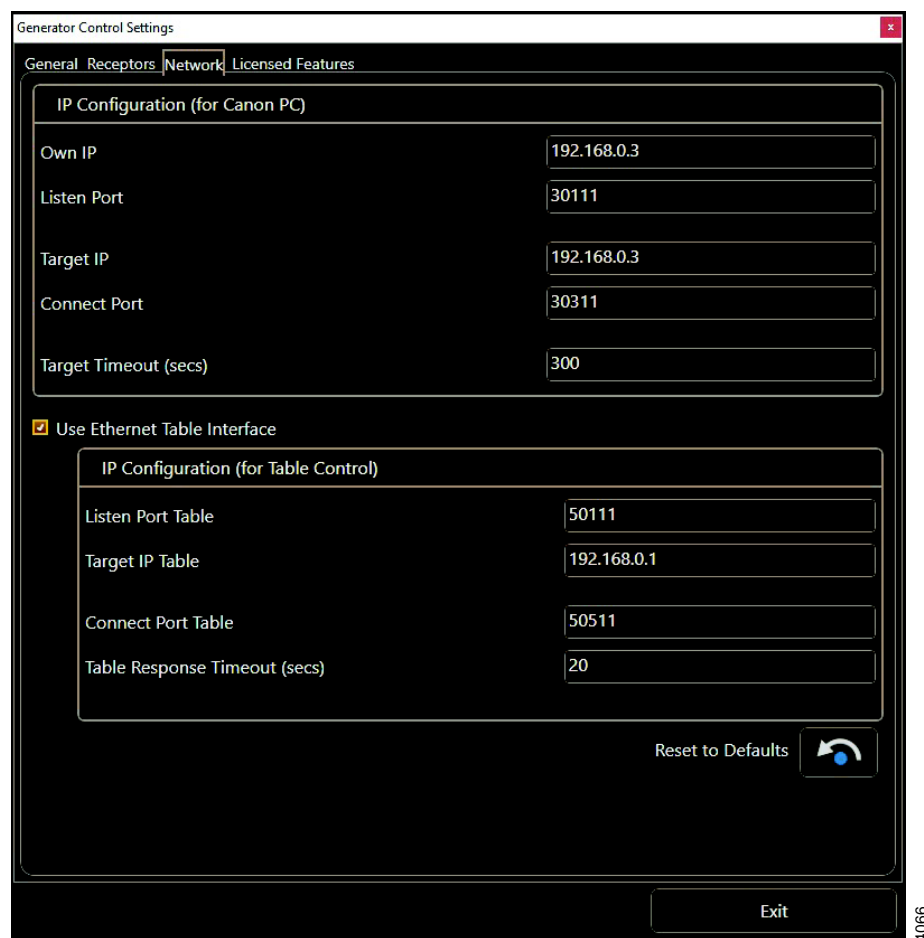

Fig. 5-9 Generator Control Settings, tab Network
7. The network settings shall be configured according to **Fig. 5-9**.